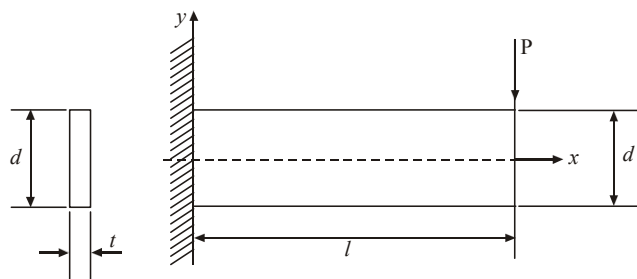

Fig. 1
- What do you understand by an Airy stress function in two dimensions? A beam of length l , with a thin rectangular cross-section, is built-in at the end $x = 0$ and loaded at the tip by a vertical force P (Figure. 1). Show that the stress distribution, as calculated by simple beam theory, can be represented by the expression